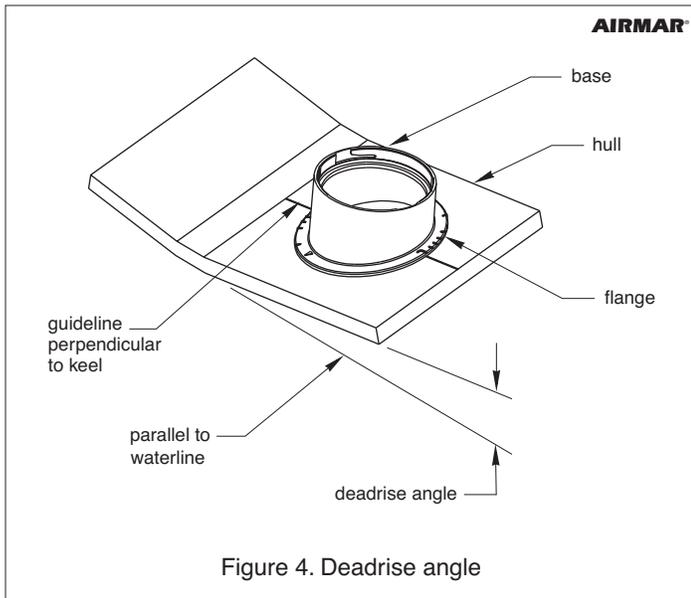

Figure 4. Deadrise angle
1. Measure the deadrise angle of the hull at the selected location using a digital level, or bubble level and protractor (see Figure 4). Measure carefully, since the installed transducer must be within 5° of vertical.